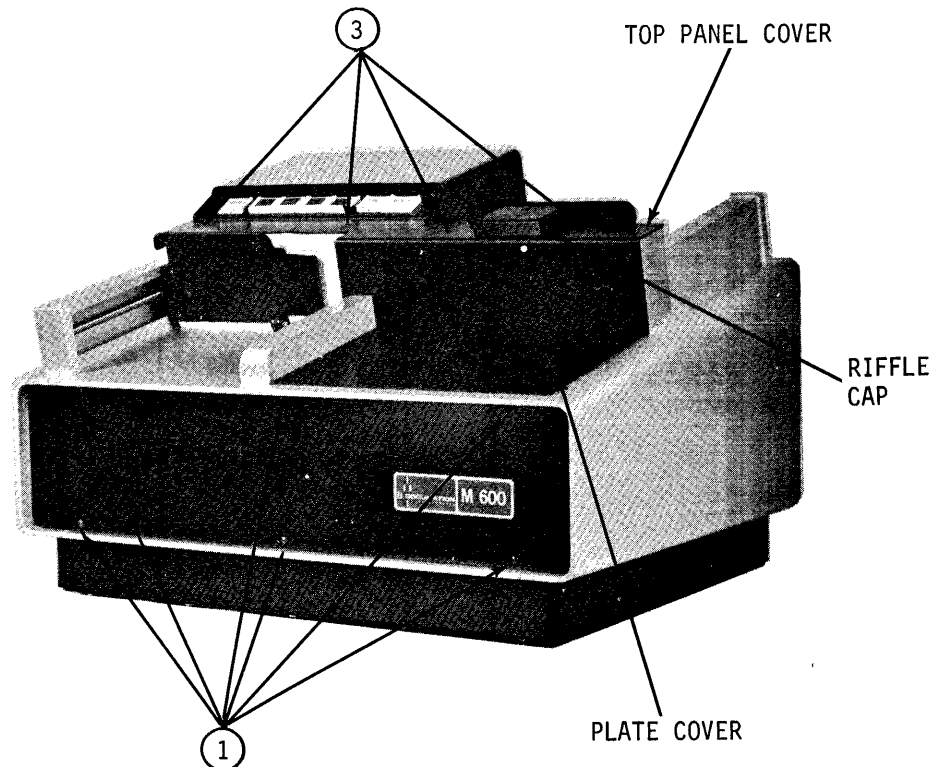

Figure 6-1. Front Panel and Top Cover Removal
- a. Remove the six screws 1 which secure the front panel to the mainframe. Refer to figure 6-1.
- b. With the front panel removed, remove the top cover. The top cover is secured with 4 screws 3 figure 6-1.
- a. Using a 3/32 Allen screwdriver, remove the two socket head screws holding the rifle air cap, figure 6-1.